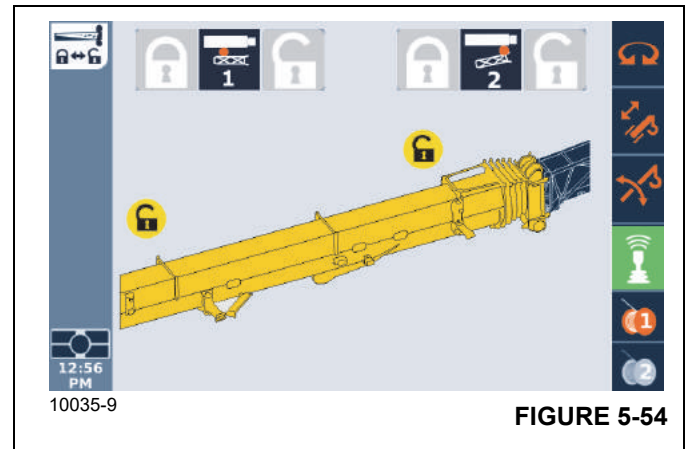

FIGURE 5-54
- e. Turn the nob (3) to relieve the pressure to retract the jack pin.
21. In the ODM display (Figure 5-54), make sure that ODM shows that the boom extension is erected.